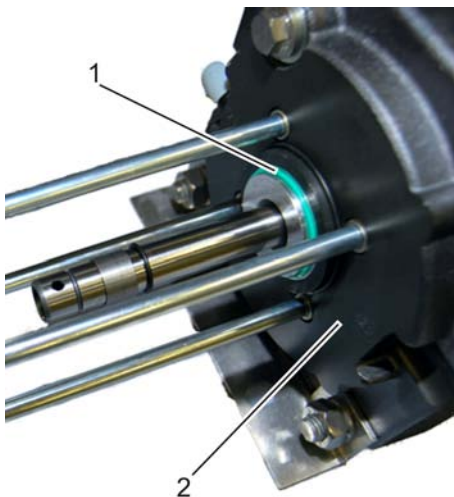

Fig. 94: High pressure seal (on air side)
2. → Check high pressure seal (Fig. 94/1) on lower cap of drive component (Fig. 94/2) for signs of wear and replace if necessary.